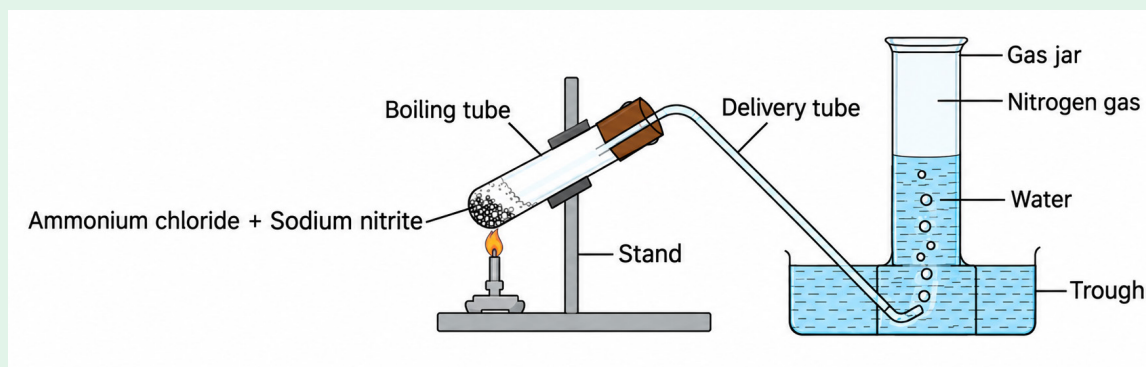

Figure 2.1: Laboratory preparation of nitrogen
2. Arrange the apparatus as shown in figure. 2.1 below.